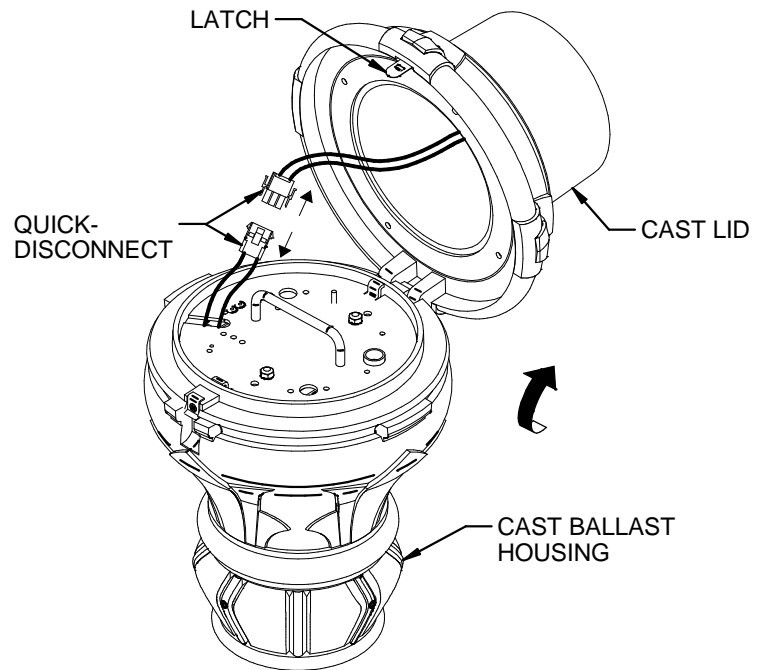

FIG. 2-1
1. TILT CAST LID TO THE SIDE BY PULLING LATCH BACKWARD. (FIG. 2-1)
2. DISENGAGE QUICK-DISCONNECT AND PULL APART. (FIG. 2-1)